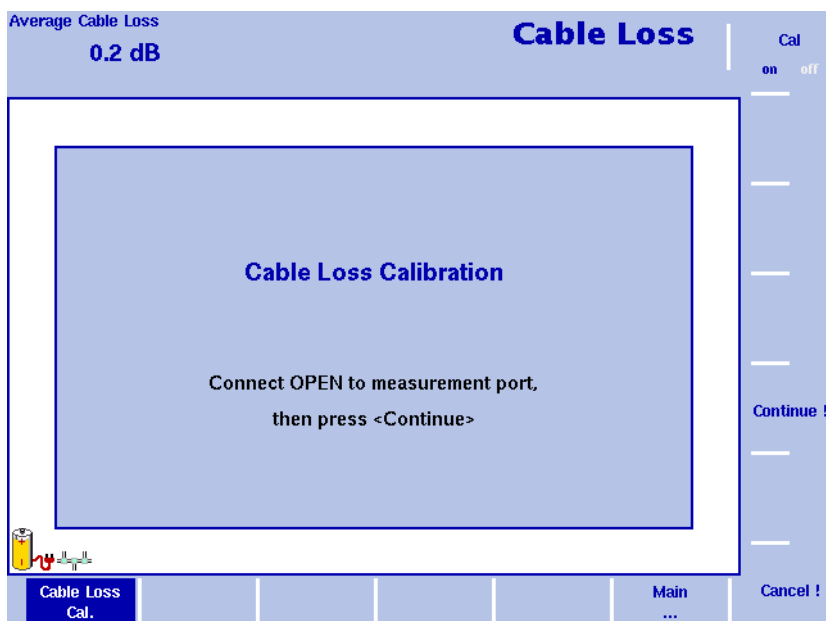

Figure 53 Cable Loss Calibration menu
- 3 The 9102 will guide you through the calibration process by onscreen messages as shown in Figure 53. When prompted as shown connect the calibration set to the test port extension cable and press **Continue**. You can abort the calibration process by pressing the **Cancel !** softkey.